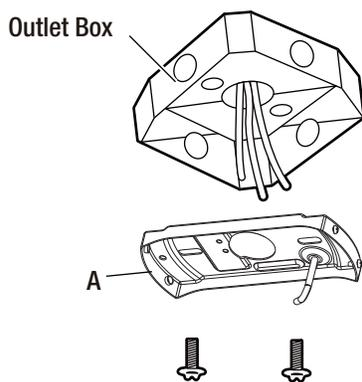

Figure 6
- Secure the mounting plate (A) to the ceiling outlet box as shown in Figure 6 by using two screws and washers (not provided). Make sure the mounting plate is level. You may need to insert additional washers (not provided) between the outlet box and the mounting plate to make it level.